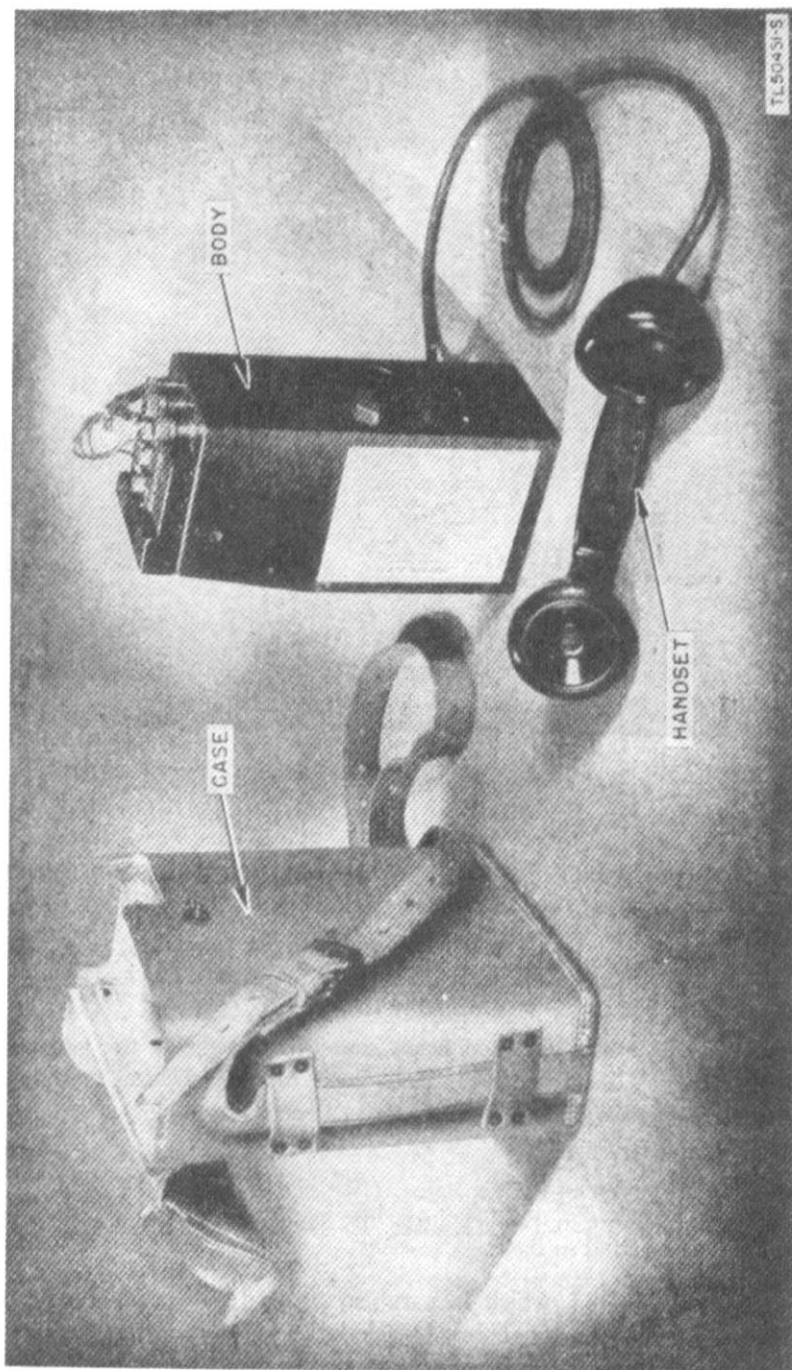

Figure 4. Telephone EE-8-A, body removed from case.
c. BODY. All elements of Telephones EE-8 and EE-8-A are mounted on an aluminum alloy chassis. The elements of Telephone EE-8-B are mounted on a sheet steel chassis. This assembly of the chassis and the elements mounted on it is called the body. (See fig. 4.) The battery compartment is on the upper left side of the body. The chassis is fastened to the case by seven machine screws.
d. HANDSET TS-9-().* Handset TS-9-(*) includes the following (figs. 4 and 9):
(1) Cord CC-333, which is a rubber-covered cord containing three rubber-covered conductors colored black, red, and white. These conductors at one end of the cord are connected to the terminals on the jack marked T & BAT +, C, and REC, respectively. The conductors at the other end of the cord are connected to terminals marked BK (or B), R, and W of the handset respectively. Stay cords are fastened at both ends.
(2) The handle, which contains suitable terminals, connections between the parts of the handset, and the handset switch in the transmitter circuit.
(3) A receiver element or unit in one end of the handle and a transmitter element or unit in the other end.